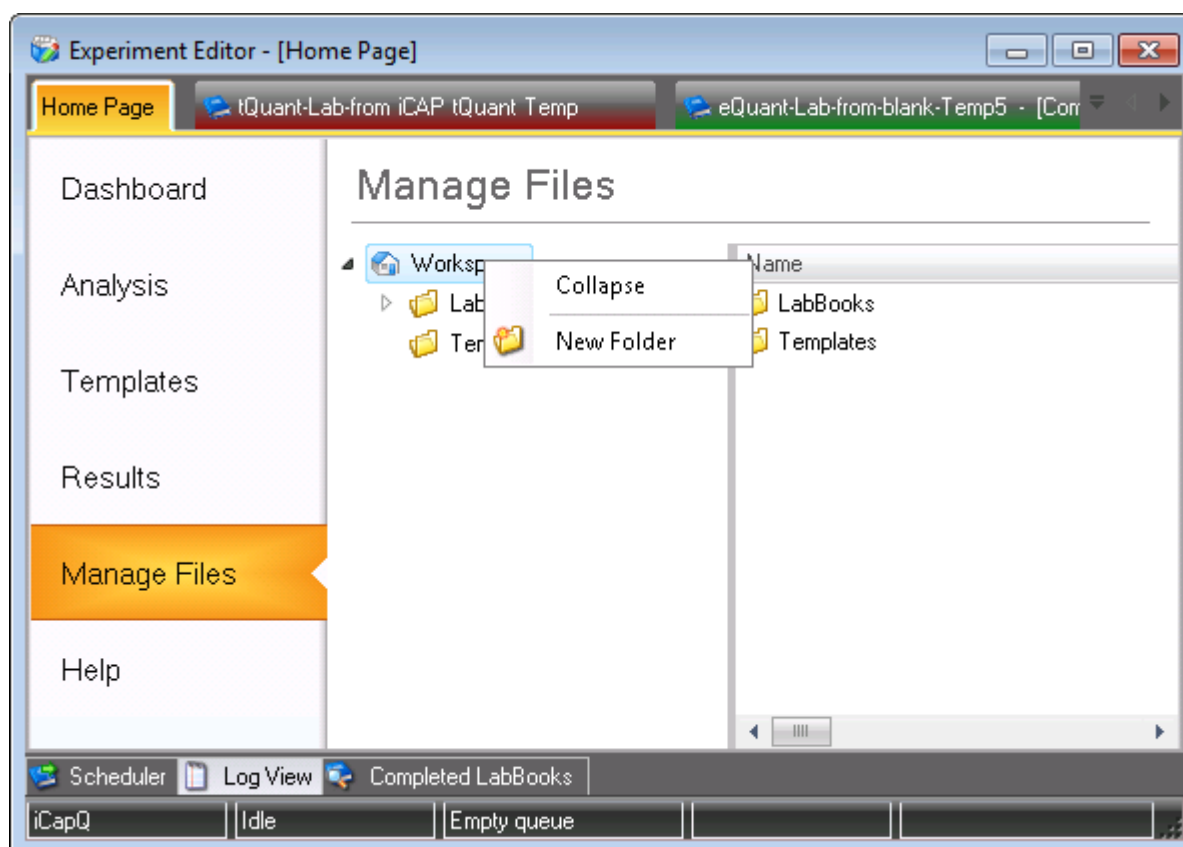

Figure 5-34. Context menu Manage Files Workspace
3. Right-click **Workspace** to create a new folder, see Figure 5-34.